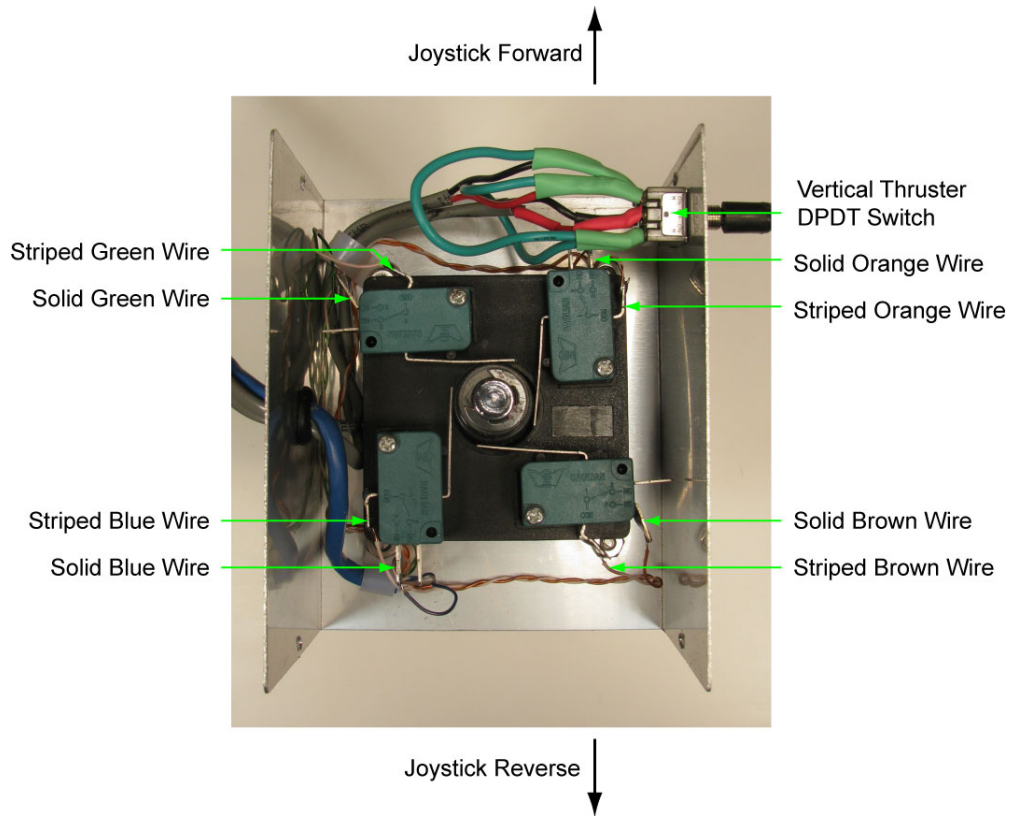

Figure 8: Cat 5e Wire Connections to the Joystick
- Route the Cat 5e cable so the individual wires will follow the path as shown in Figure 8.
- Solder the Cat 5e wires to the joystick switch terminals as illustrated in Figure 8.